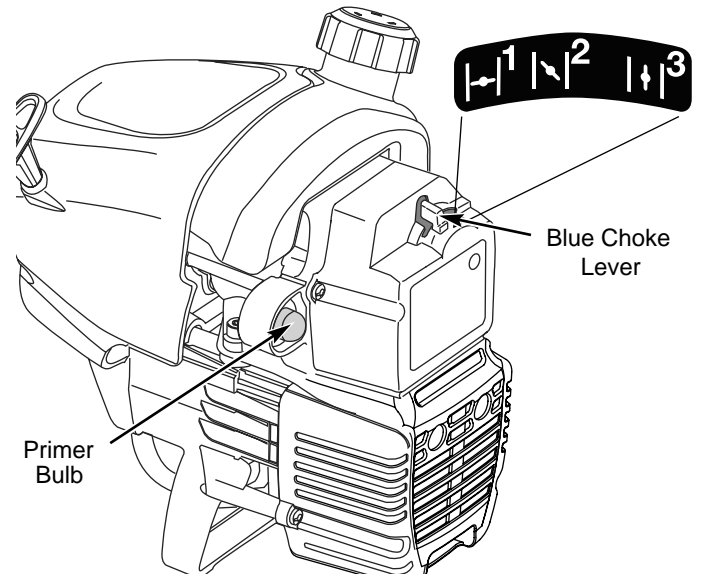

Fig. 10
2. Fully press and release the primer bulb 10 times, slowly. Some amount of fuel should be visible in the primer bulb and fuel lines (Fig. 10). If you can't see fuel in the bulb, press and release the bulb as many times as it takes before you can see fuel in it.
3. Place the blue choke lever in Position 1 (Fig. 10).
5. Place the blue choke lever in Position 2 (Fig. 10).
8. Once the engine is warmed up, place the blue choke lever in Position 3 (Fig. 10). The unit is ready for use.
**IF...** the engine hesitates, return the blue choke lever to Position 2 (Fig. 10) and continue warm-up.